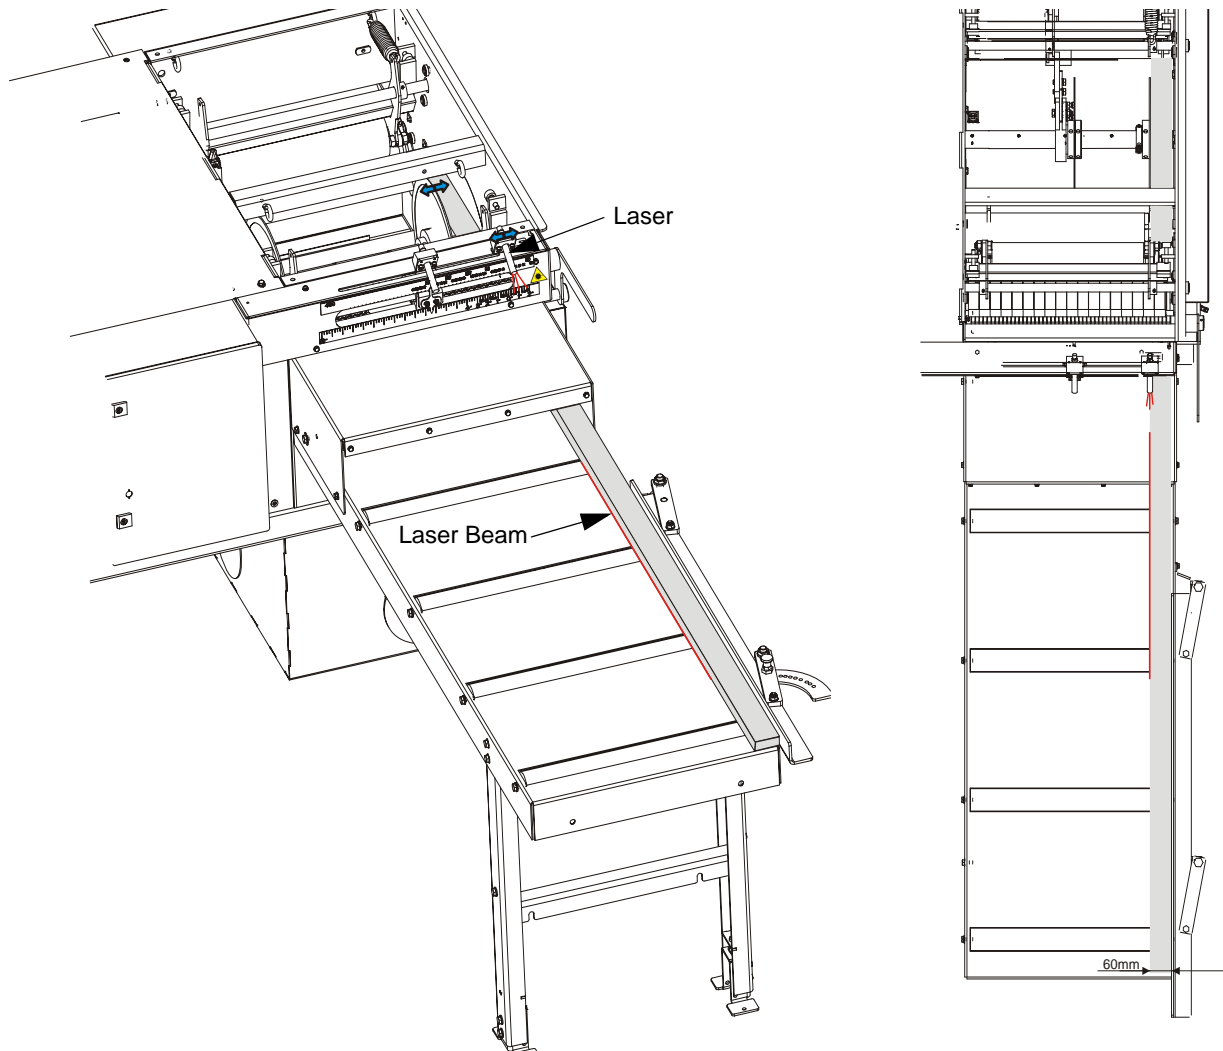

FIG. 5-7
3. Place a 60mm wide bar along the outside edge of the blade and so that the bar is aligned with the 0 mark on the scale and the bar meets the fence. See Figure 5-7.
See Figure 5-7.